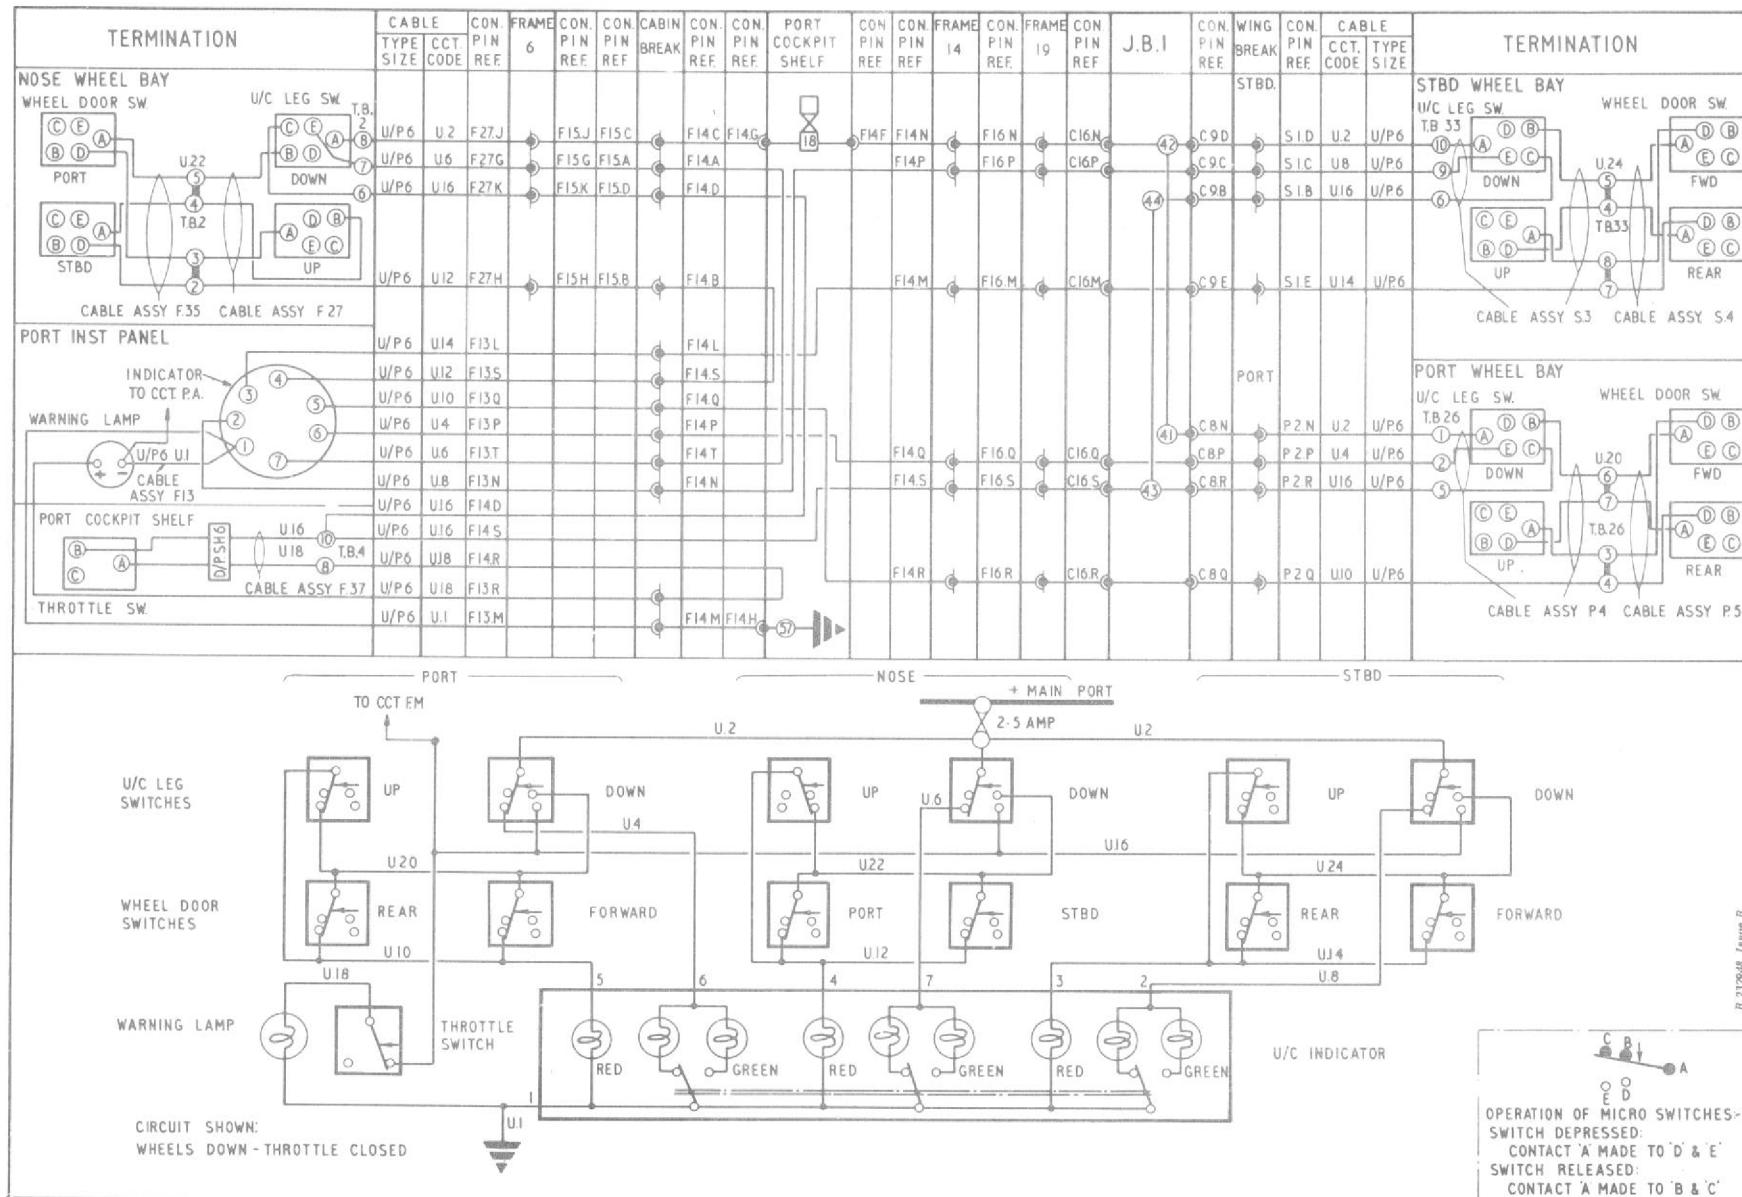

Fig. 1. Alighting gear indicator and warning lamp (routeing and theoretical)
4. The circuit diagram on fig.1 illustrates the condition when the aircraft is standing